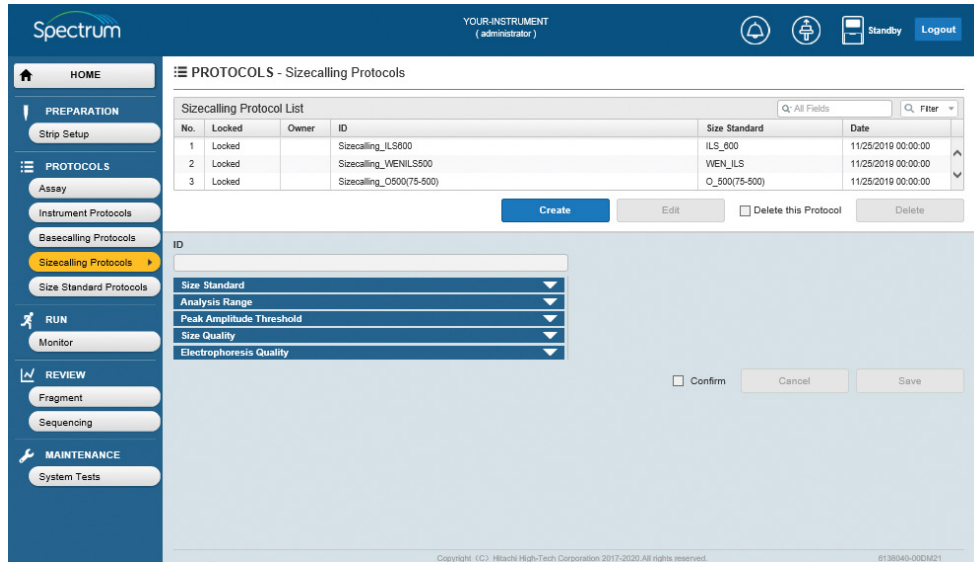
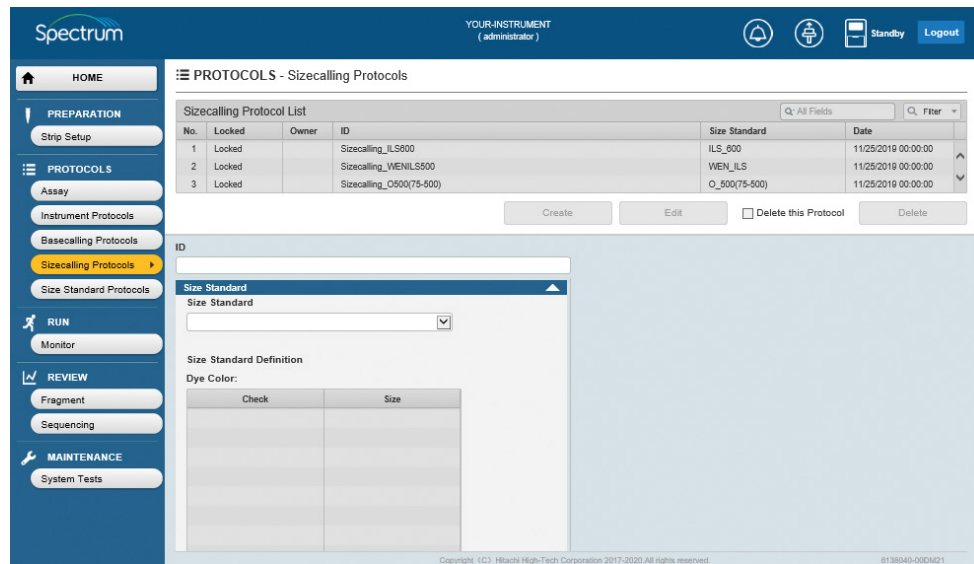

Figure 47. 'Sizecalling Protocols' screen.
Figure 48. 'Sizecalling Protocols' screen with active fields.
1. Select **Sizecalling Protocols** under PROTOCOLS from the Main Menu of the 'HOME' screen (Figure 4) and then select **Create** (Figure 47). This activates the ID field (Figure 48) and the **Size Standard, Analysis Range, Peak Amplitude Threshold** and **Size Quality** pulldown menus.